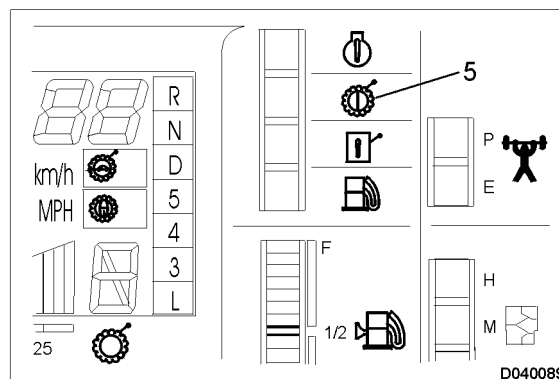

FIGURE 4-56. CONFIRMING DATA DELETION
4. To prevent the data from being deleted from the memory of the wrong controller, an instrument panel caution display (5, Figure 4-56) lights up to make it possible to confirm the controller from which the data is being deleted.